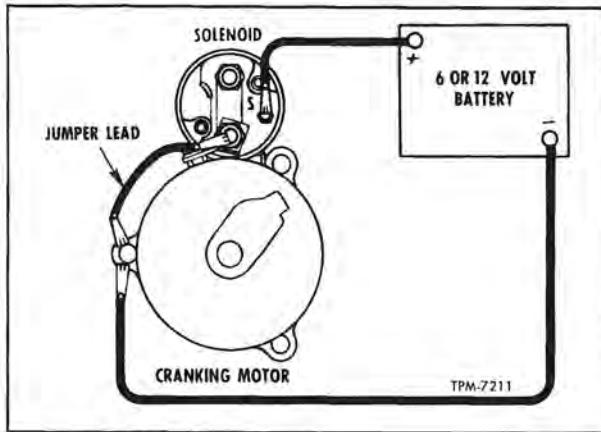

Figure 10—Test Hook-up For Checking Pinion Clearance
1. To check the pinion clearance, connect a 6-volt battery from solenoid switch terminal to starter frame (fig. 10). If solenoid does not operate, use a 12-volt battery. To prevent starter from motoring, connect a heavy jumper from solenoid "MOTOR" terminal to starter frame (fig. 10).